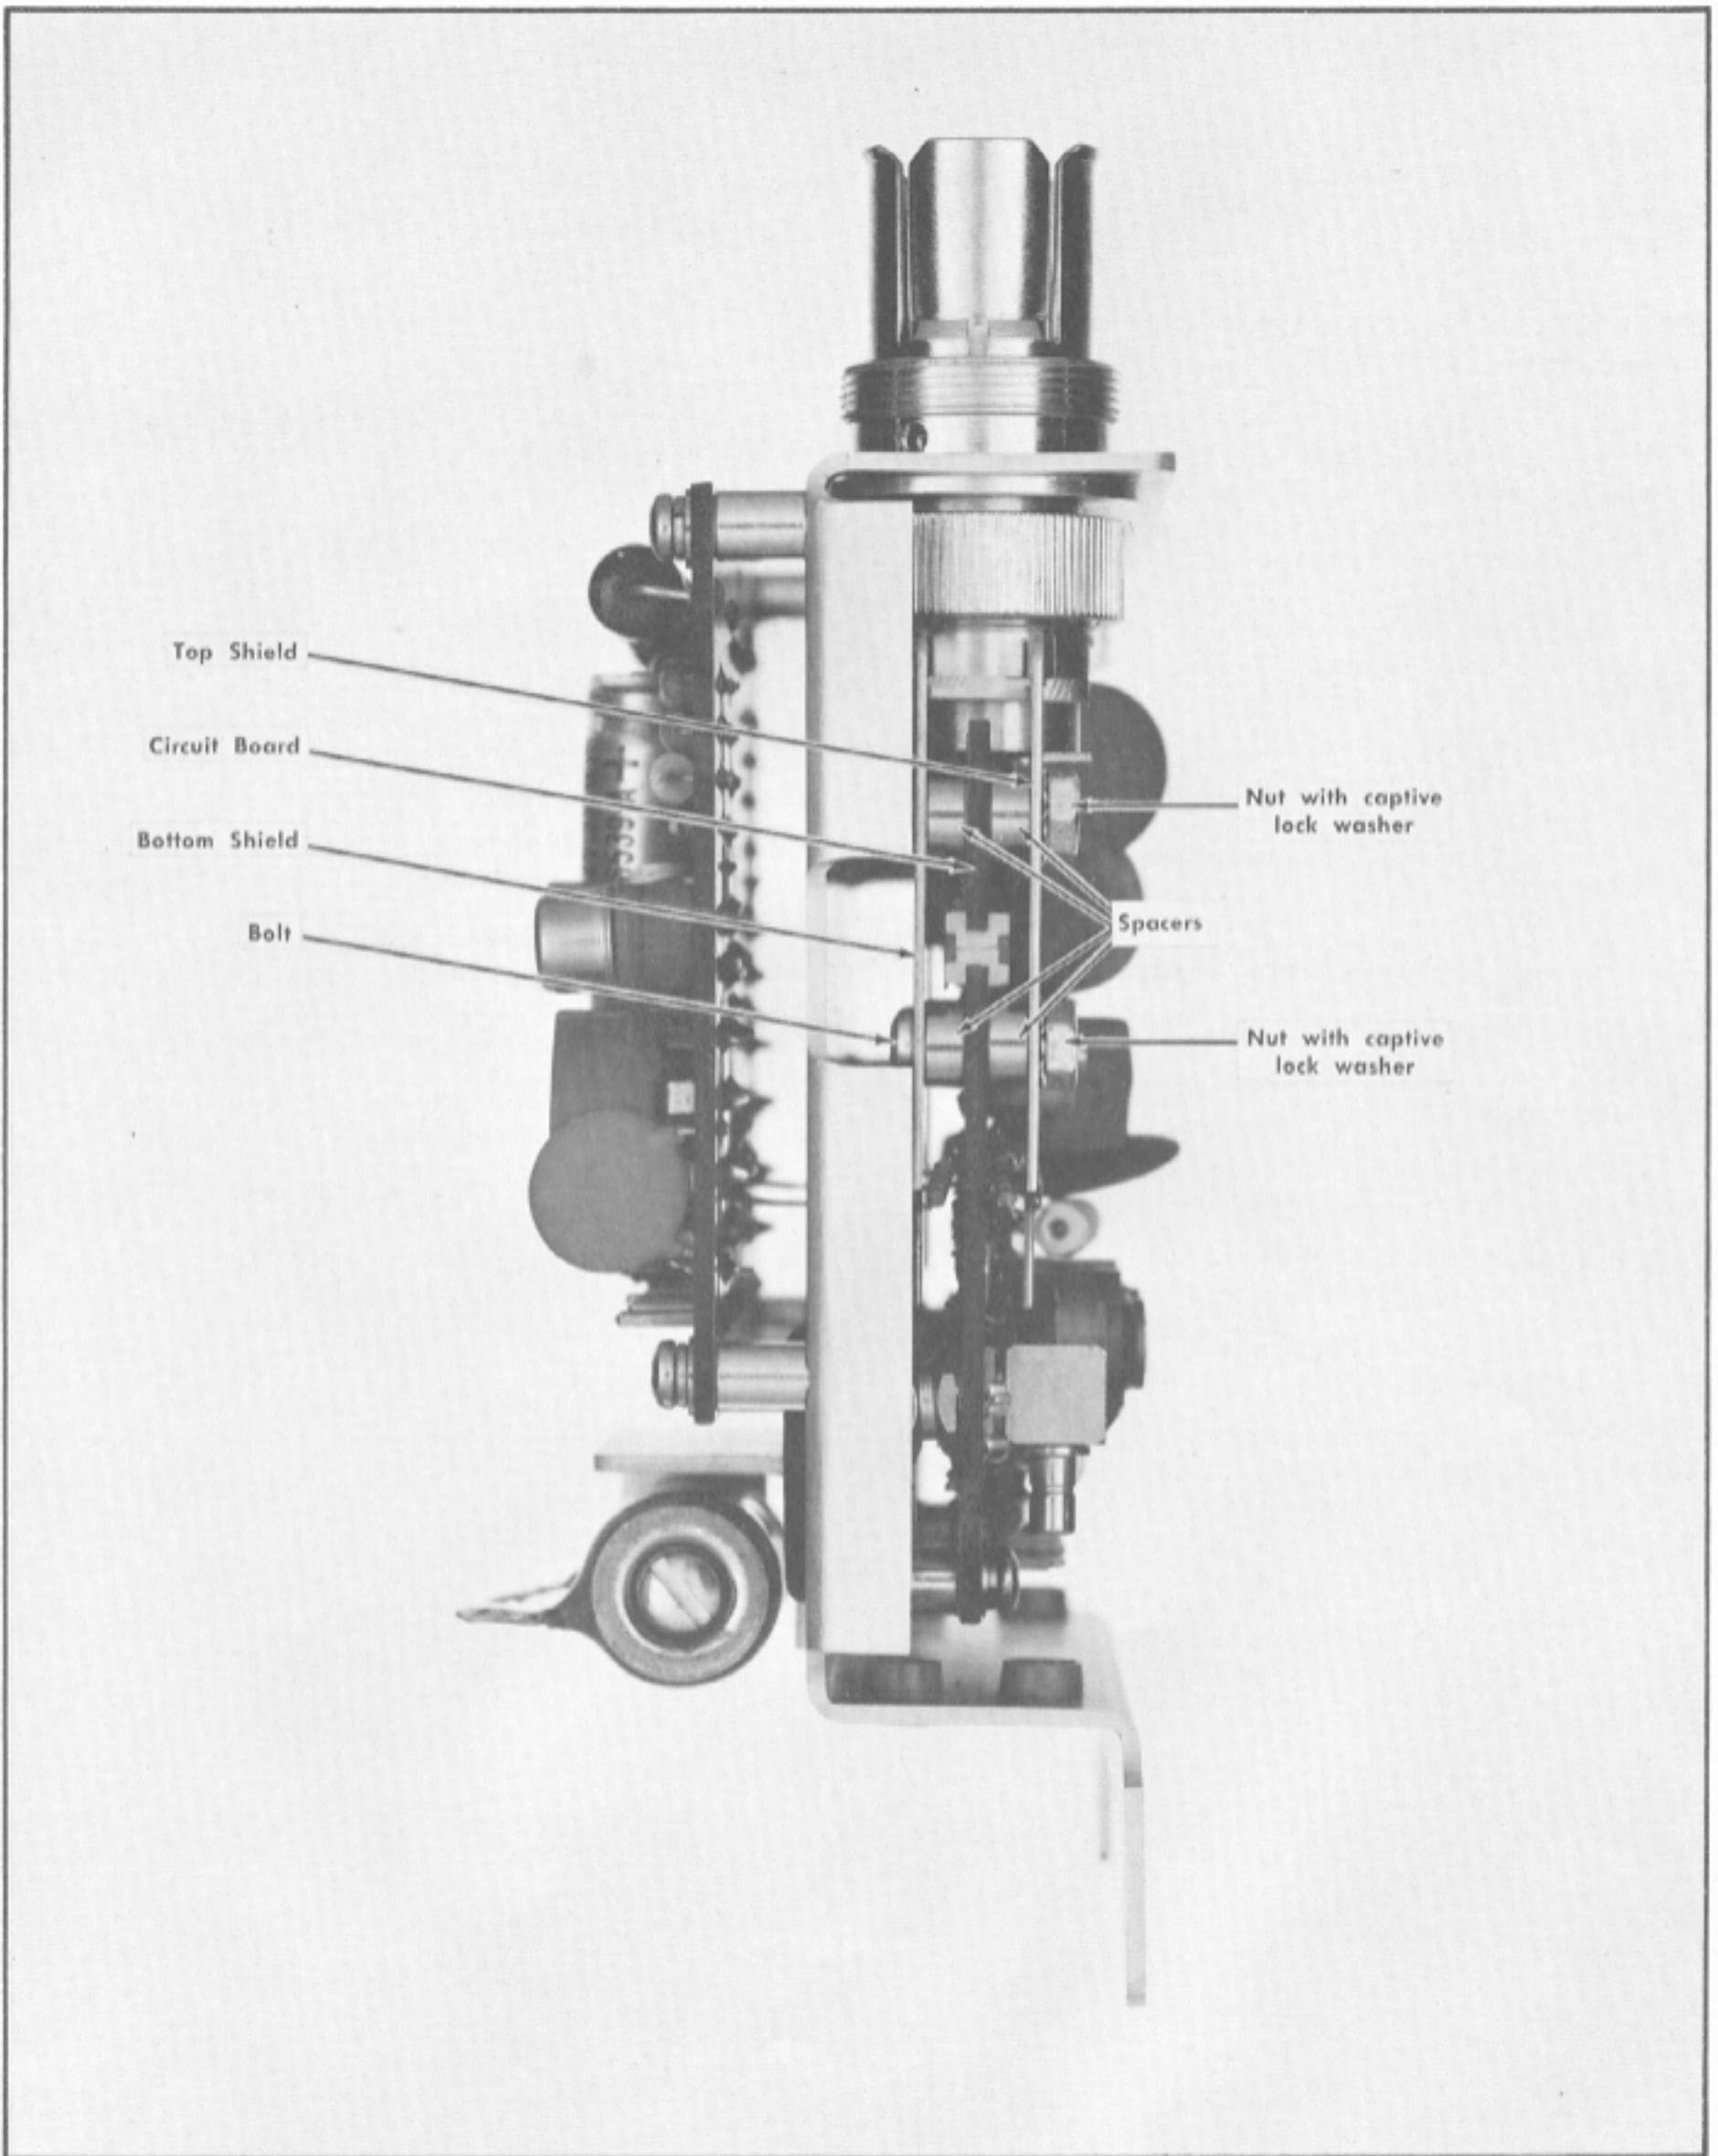

Fig. 4-8. Assembly of Sampler Gate Board.
- (1) Insert a bolt through each of the four mounting holes in the bottom shield.
- (2) Place a spacer on each bolt, then slide the bolts through the matching mounting holes in the circuit board.
- (3) Add another spacer on each bolt on the top side of the circuit board, and set the top shield on the bolts.
- (4) Start a nut with captive washer on to each bolt, but do not tighten the nuts at this time (Fig. 4-8).
- (5) Slide the GR connector assembly on to the center conductor protruding from the circuit board, being careful not